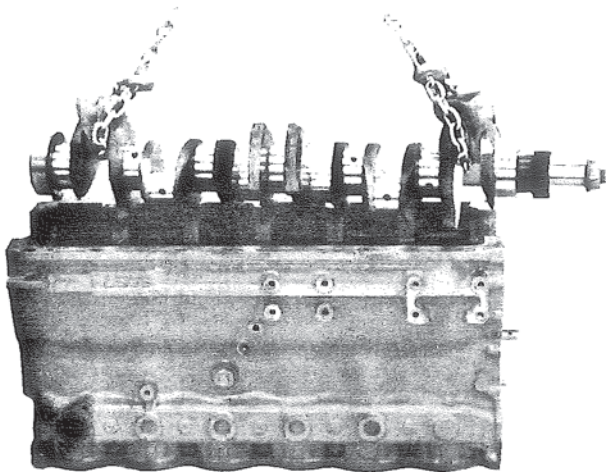

Figure 49. Lowering Crankshaft in Position.
5. Lower crankshaft into place. Figure 49.